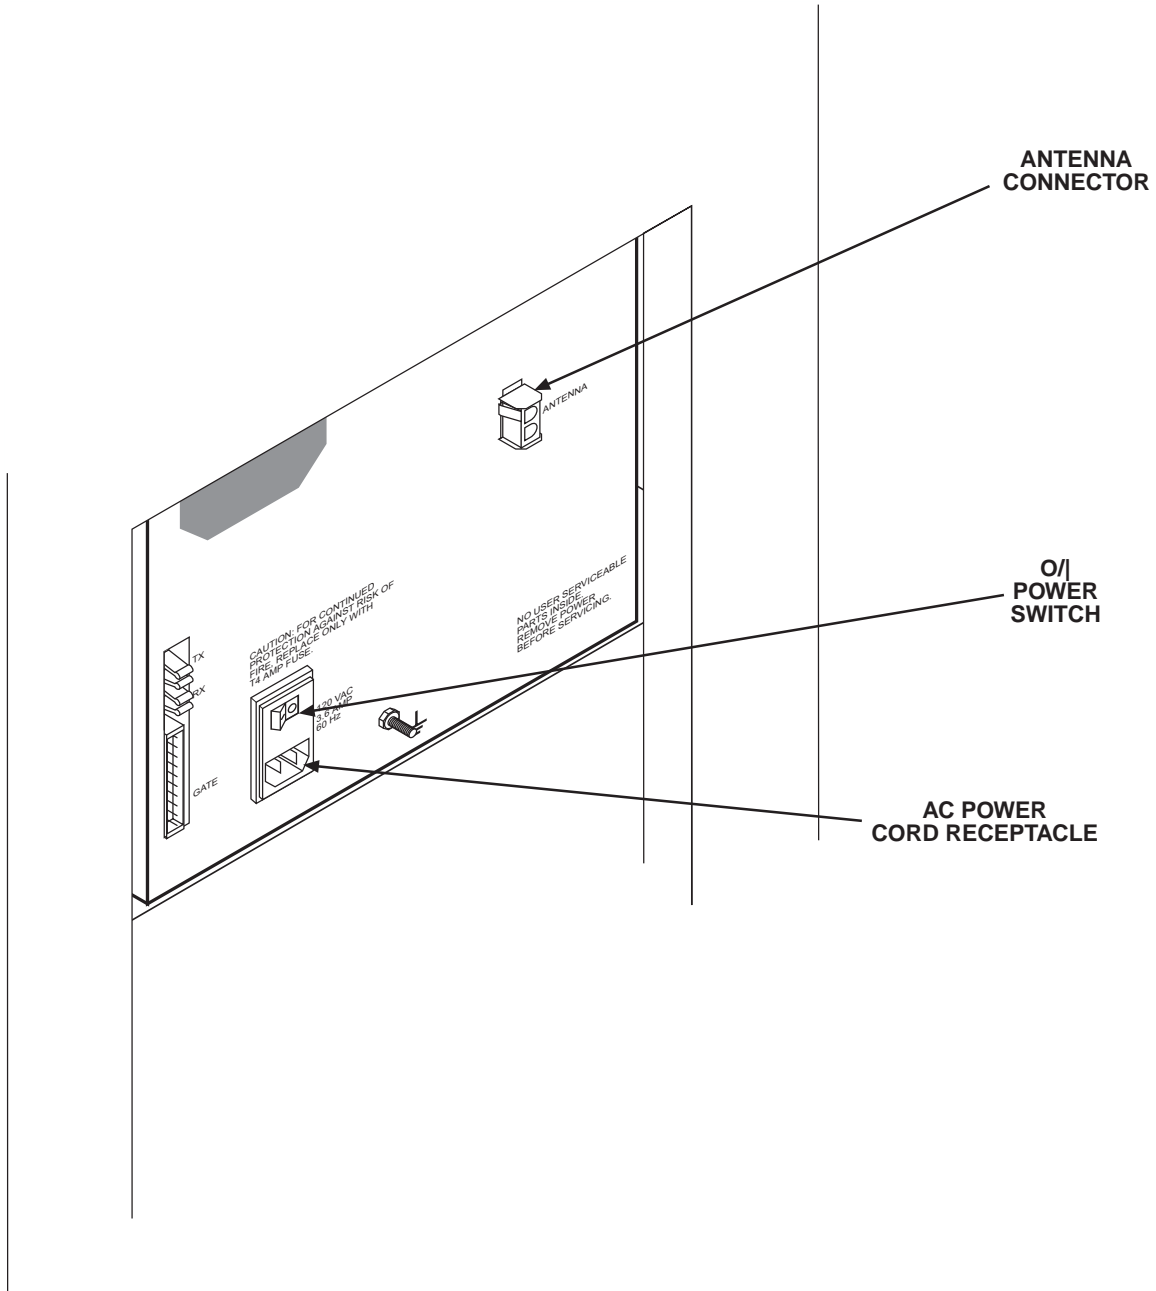
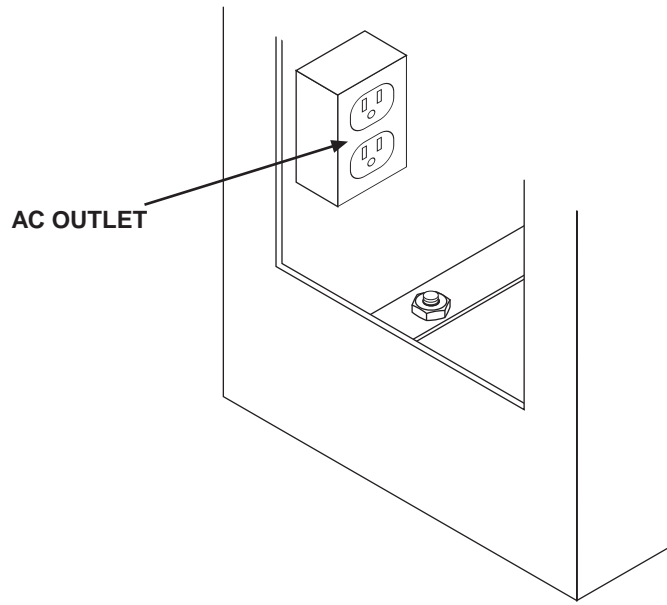

Figure 2-10. Antenna connector, O/I power switch and ac power cord receptacle locations
Figure 2-11. Pedestal AC outlet location
3. Plug the female end of the ac power cord into the control unit chassis receptacle (see figure 2-10); plug the other end into the outlet (see figure 2-11).
4. Install the antenna cable connector onto the rear of chassis (see figure 2-10).